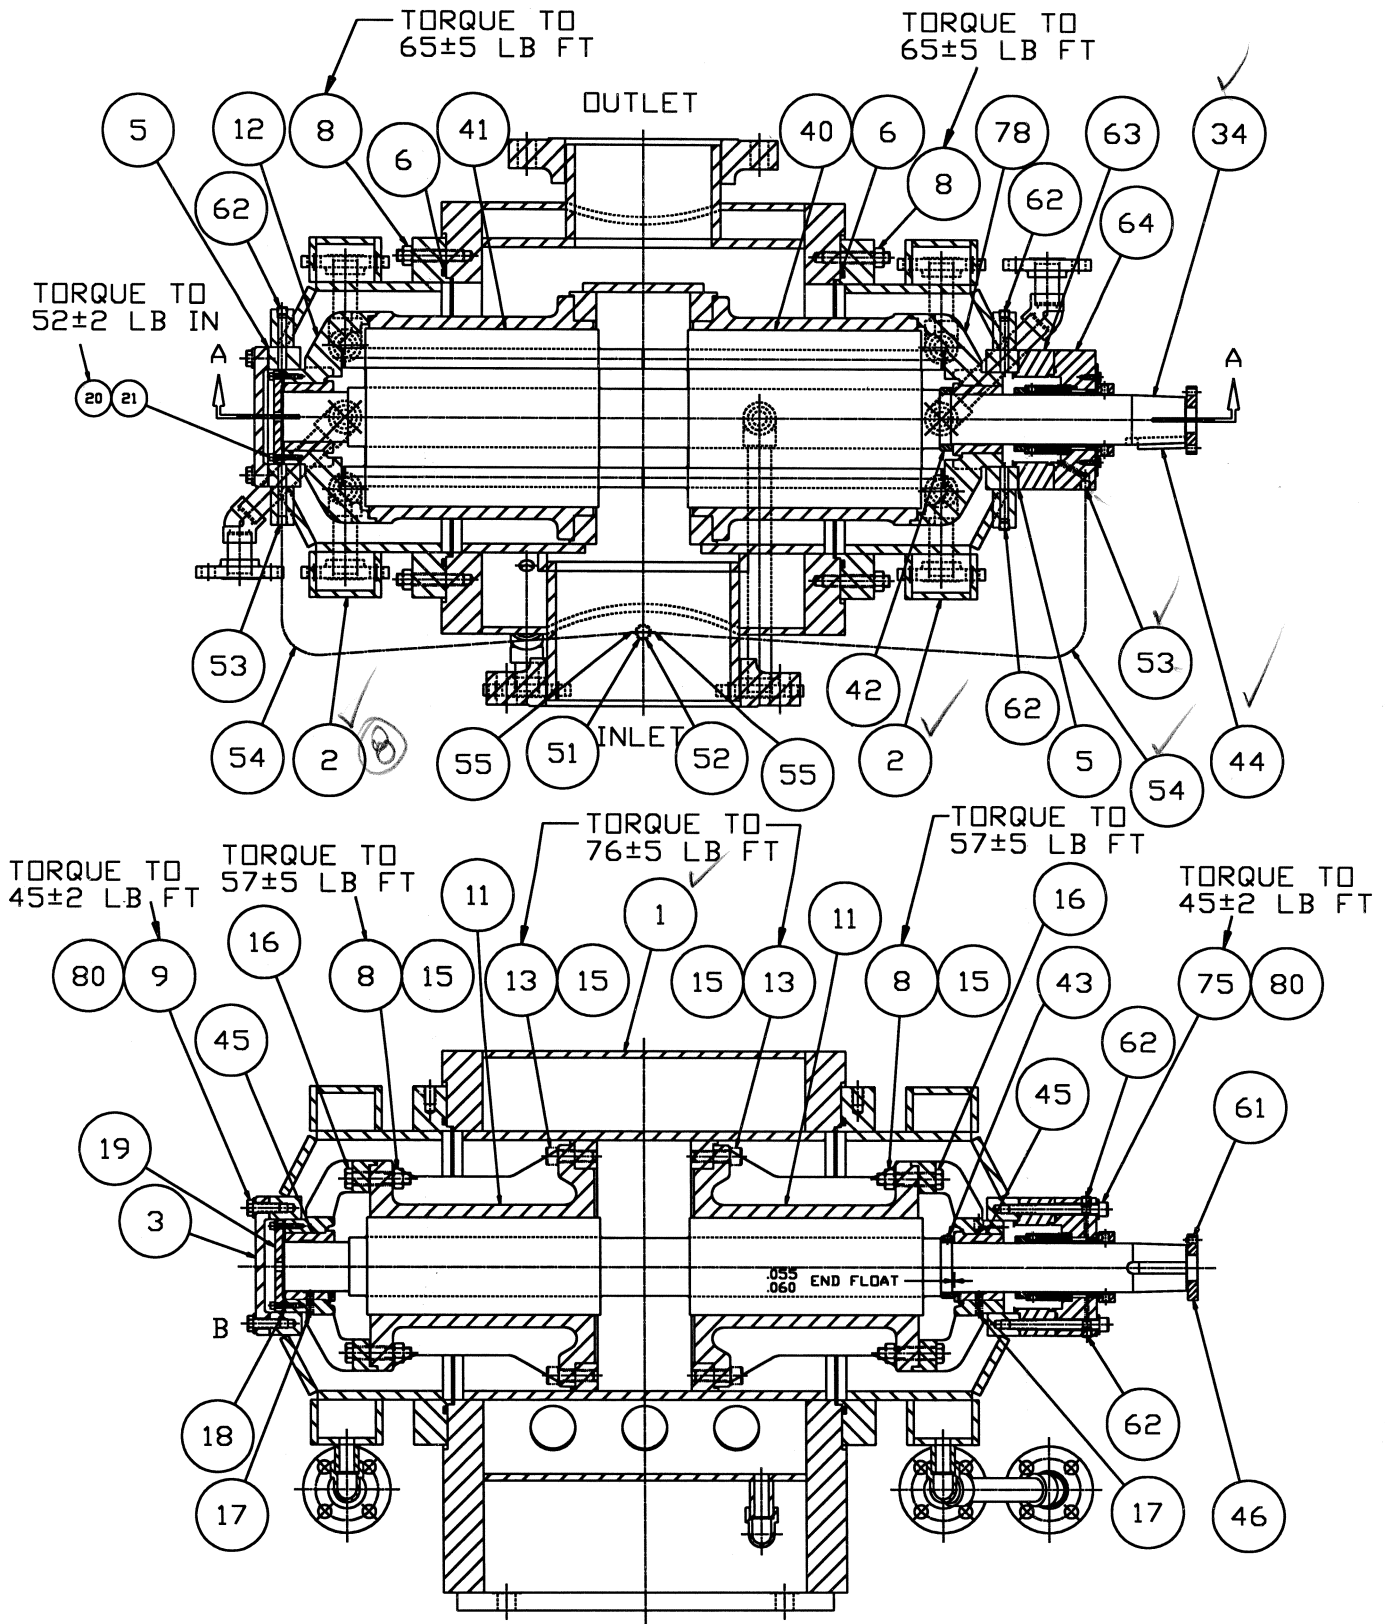

FIGURE 3
Note: Use Assembly drawing, either Figure 3 of 4 depending on pump size.
1. Install inboard and outboard housings (11) in case (1) using capscrews and washers ((13) and (14) on 800J pump or (13) and (15) on 550J pump). Align housings (11) rotor bores such that the idler rotor bores are parallel to the pump case feet. Torque capscrews (13) to value on appropriate assembly drawing (figure 3 or 4).
2. If collar (42) was removed from power rotor (34), install collar (42) and lock in position using set screw (43). Ensure collar (42) is installed next to step-cut of power rotor (34). Peen set screw (43) to collar (42) threads using a center punch to prevent loosening.
3. If bushings (45) were removed, slide bushing (45) into each bracket (12 and 73 or 78). Using pinhole in brackets (12 & 73 or 78) as jugs, drill a 1/2 inch hole through bushing (45). Remove all drill burrs and install spring pin (17). DO NOT allow spring pin (17) to extend into bushing (45) bore.
4. Slide power rotor (34) into housing (11) rotor bore. Rotate power rotor while inserting inboard idlers (40) until idler ends are centered in housing (11). Idler position may be observed by looking into pump inlet port. Repeat procedure for both outboard idlers (41).
5. Install assembled brackets (12 and 73 or 78) on each end of housings (11). Before installing capscrews (16) in brackets (12 and 73 or 78), and with each bracket in place, check idlers (40, 41) to ensure bracket (12 and 73 or 78) idler stops are in line with ends of idlers. Turning power rotor (34) in its normal direction of rotation will pull idlers (40 & 41) toward center of pump. Attach each bracket (12 and 73 or 78) to housings (11) using bolts (16), washers (15) and nuts (8) on 500J pump or capscrews (16) and washers (15). Torque capscrews (16) to value on appropriate assembly drawing (figure 3 or 4).
6. Install shim (18) and cover (19) on outboard bracket (12) with six capscrews (20) and washers (21). Tighten capscrews (20) to torque value on appropriate assembly drawing (figure 3 or 4).
8. Install O-rings (6) in inboard and outboard covers (2) and install covers (2) on pump case (1) using nuts (8). Torque nuts (8) to value on appropriate assembly drawing (figure 3 or 4)
10. If pump is an 800J, install gasket (5) and cover (63) on cover (2) at front of pump using nuts (26) and washers (79). If pump is a 550J, install cover (63). It will be secured in the next step along with the seal assembly. If pump is an 800J, torque nuts (26) to value on appropriate assembly drawing (figure 3)